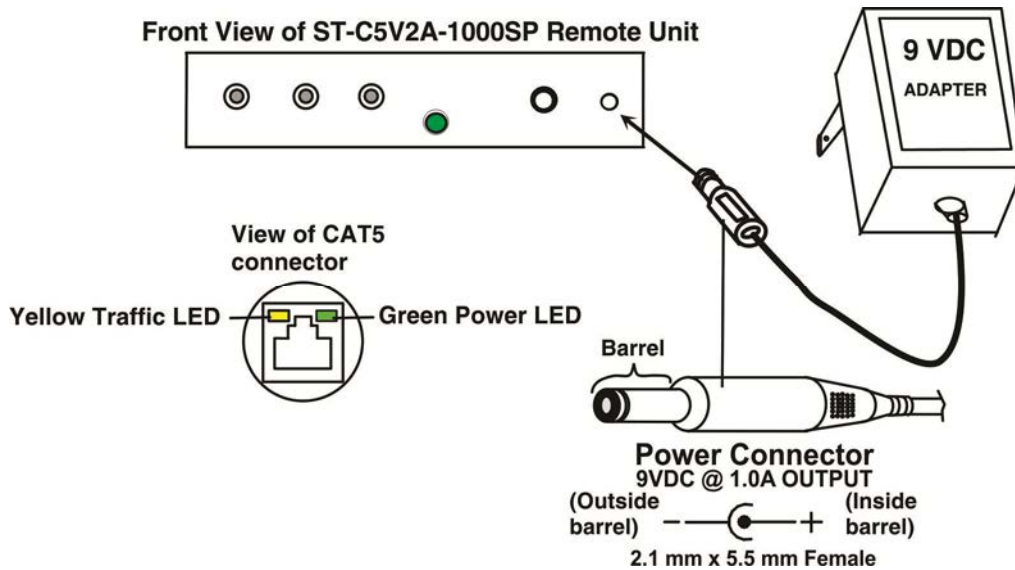

Figure 5- Connect an AC adapter to a 1000 Foot Remote Unit
4. Plug each AC adapter into a power outlet. The green LEDs on the VOPEX and the RJ45 connector of each XTENDEX Receiver should illuminate, indicating that a proper power connection has been made to them. (See Fig. 5)
Note: The yellow LED on the RJ45 connector of each XTENDEX Receiver will blink anytime data traffic is passing between the VOPEX and the XTENDEX Receivers, indicating proper CAT5 cable connection and communication. (See Fig. 5)